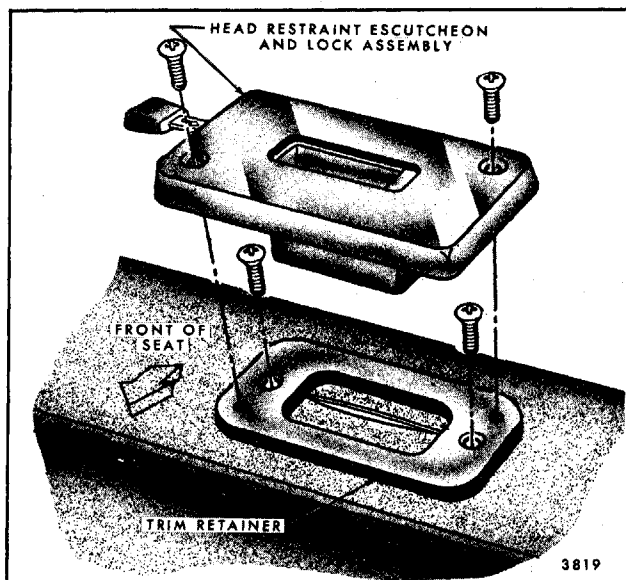

Fig. 9-60-Front Seat Back Head Restraint Retainer, Lock and Escutcheon - E, K and X Styles
2. Remove lock and escutcheon assembly attaching screws and remove lock and escutcheon (Fig. 9-60).